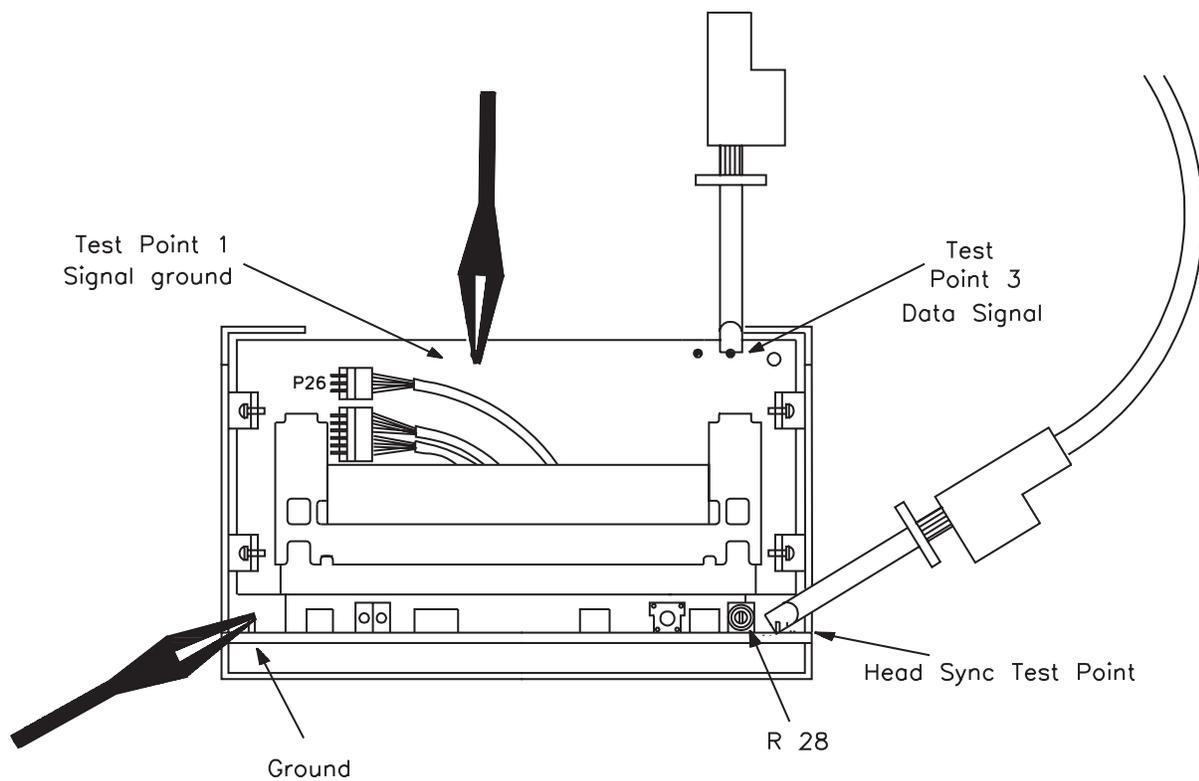

Figure 18-1
5. Connect oscilloscope test probe channel 1 to test point 3 (TP3) on the RW card. Connect the ground for the probe to test point 1 (TP1) on the RW card, as shown in Figure 18-1.
6. Connect oscilloscope test probe channel 2 to the head sync test point, which is the second test point from the right on the front edge of the SV card. Connect the ground for the probe to the ground point, which is the left-most test point on the front edge of the SV card, as shown in Figure 18-1.